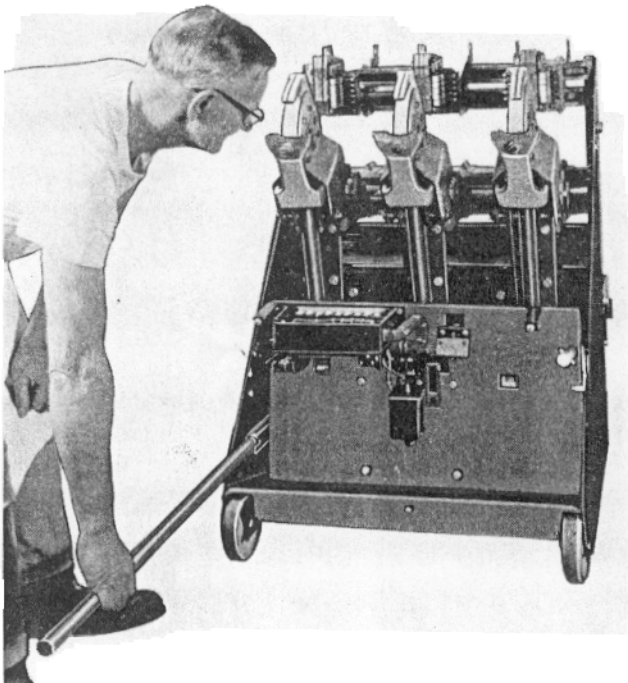

FIG. 14. Method of Operating Secondary Contacts
release the latch and raise up on a handle to the end of the travel. See Fig. 14.
**13. Engage secondary contacts.** Place the hand closing handle in the secondary contact socket and lift up to engage the secondary contacts. (Fig. 14.)